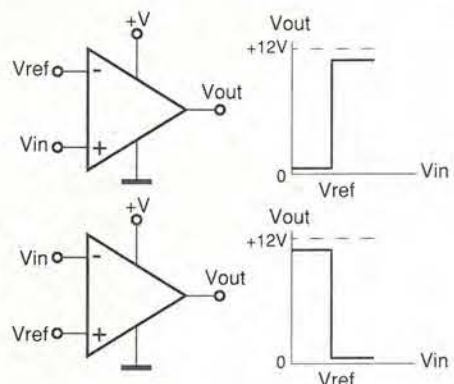
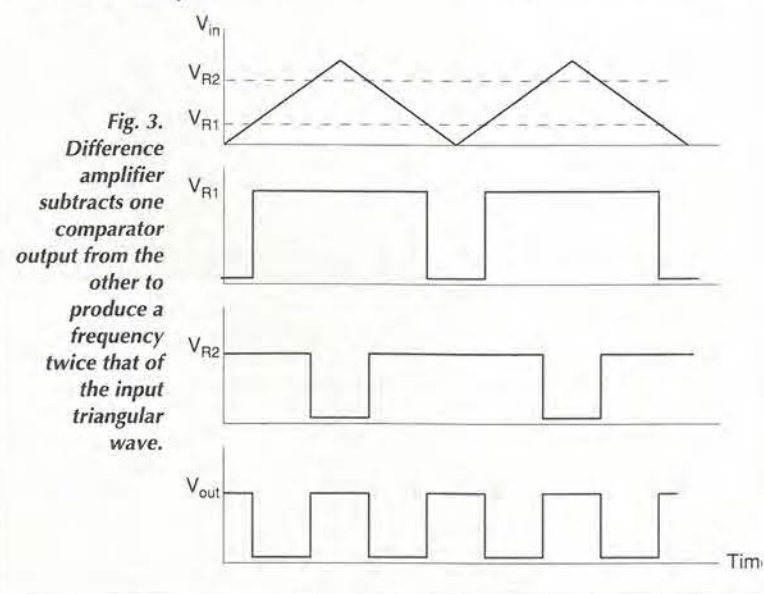

Fig. 1. Comparator output with rectangular wave applied to either of the inputs.
Fig. 3. Difference amplifier subtracts one comparator output from the other to produce a frequency twice that of the input triangular wave.
Two comparators may be connected to either a difference amplifier or to a summer to produce a frequency doubler or a variable-width output pulse. Basic comparator operation in Fig. 1 shows the effect of reversing inputs, the arrangement in Fig. 2 producing, in response to a sawtooth input waveform, positive pulses at pins 1 and 7, the width of which depend on the rectangular V_{ref1} , V_{ref2} waveforms and V_{in} . Subtracting one from the other in the LM301 difference amplifier gives the output shown in Fig. 3.